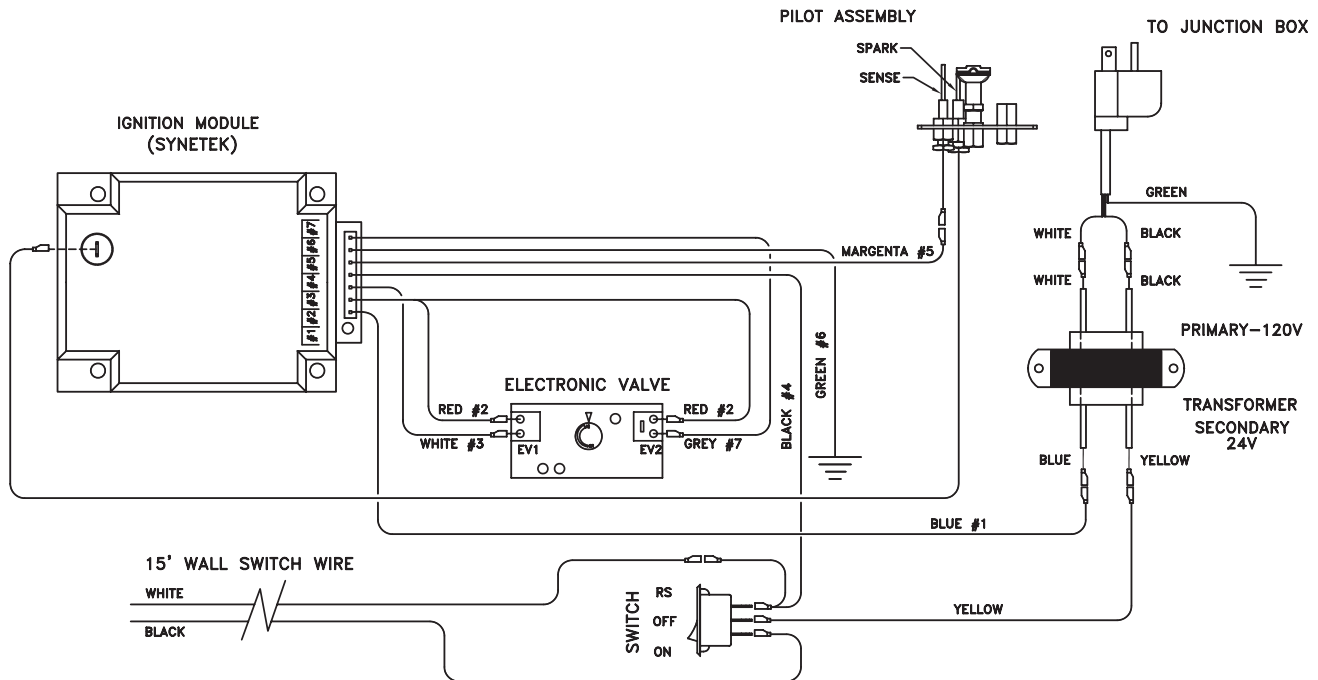

Figure 38 -
2. Connect the wire terminal from the remote receiver. This replaces the 15' wall switch connection to the switch. *Figure 38*.